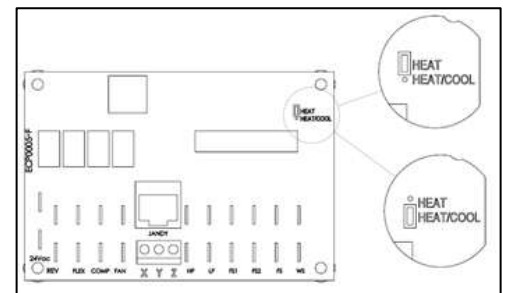

Figure 26
- 2) For a two-wire controller (which has a thermostat) – Connect to the “Y” and “Z” connections of the block labeled “X-Y-Z”. See Figure 26.
4. Remove and reposition jumper located at the upper right hand corner of control board. See Figure 26. Jumper must cover middle and lower pin as shown for "Heat and Cool".